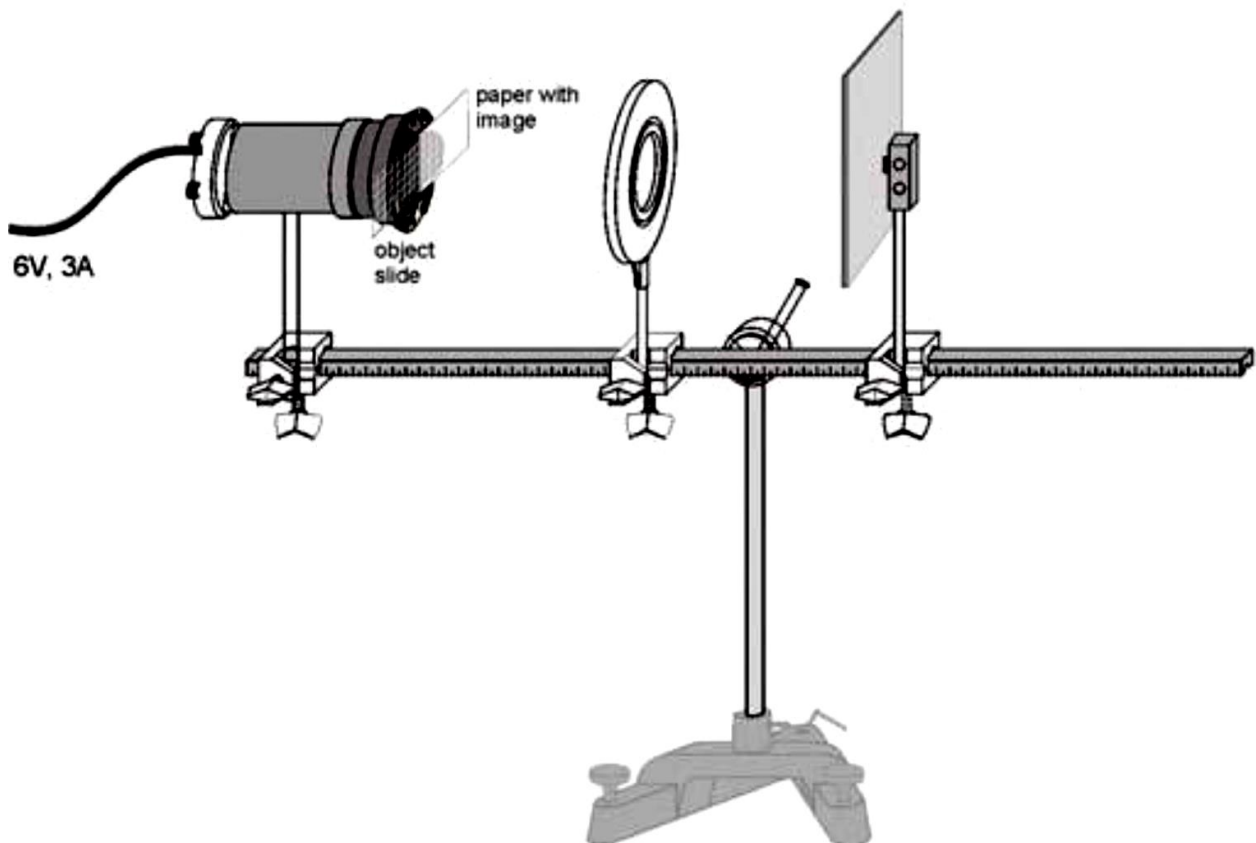

Figure 514.3. Experimental setup for determining the focal length by the auto-collimation
Auto-collimation method is based on the reversibility of light propagation. If an object is placed at the focus of a lens, then after the lens there will be a light ray parallel to the optical axis. A plane mirror placed beyond the lens reflects this ray so that the object's image will be observed near the object (Fig. 514.3). The distance d between the lens and the image will be equal to the focal length of the lens f .
1. Install the lamp with the aspheric condenser on the optical bench as shown in Fig. 514.3.
3. Insert the glass with a drawing (object) and a sheet of white paper (screen for observing the object) into the diaphragm holder according to Fig. 514.3. Both the paper and the object should cover half of the condenser lens.